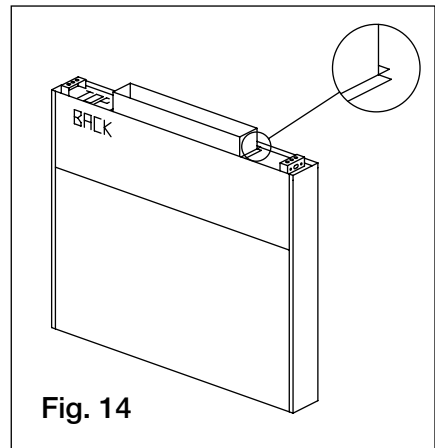

Fig. 14
4. Place the duct collar(s) over the opening, fastening with screws or tack-welds every 4 to 6 in. (10.16 to 15.24 cm). (Fig. 14)